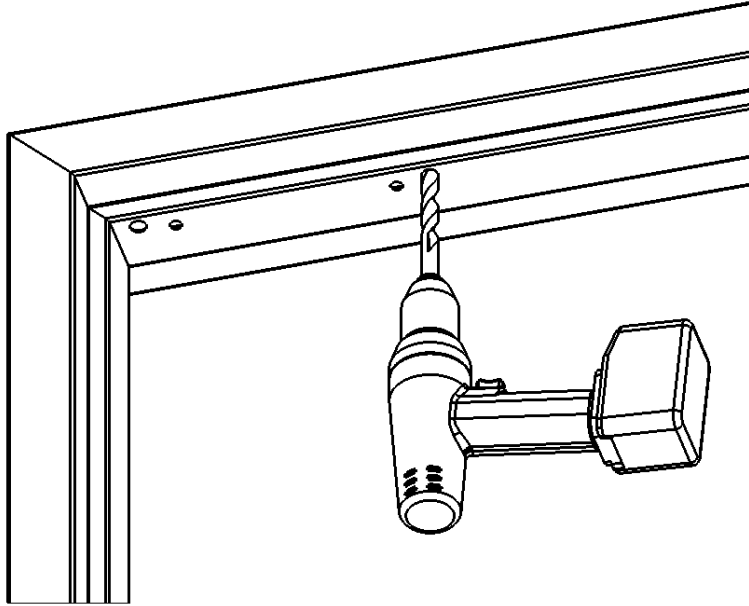

Figure 11. Drilling the Wire Access Holes
3. DRILL wire access holes (1/2" diameter recommended), as needed, on one or both sides of the bracket (see Figure 11, "Drilling the Wire Access Holes").